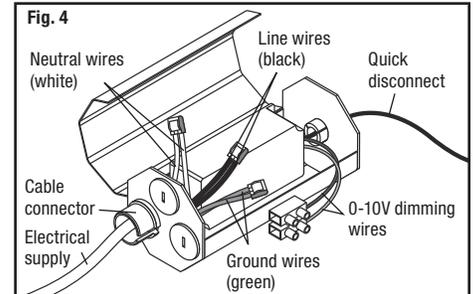

Fig. 4
3. Insert electrical supply cable through knock-out in the driver enclosure and secure with cable connector. Wire enclosure using pre-installed push-in connectors. Do the wiring as per NEC (National Electric Code) standards. Connect green ground wire of cable to green wire on fixture. Connect white wire of cable to white wire of fixture. Connect black wire of cable to black wire of fixture (Fig. 4).